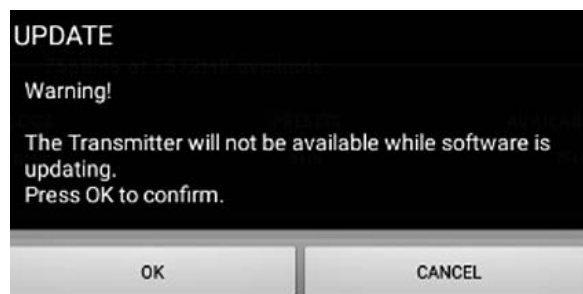

Figure 122: Update Confirmation Screen
5. At the screen shown in *Figure 122* below, click the OK button to confirm the update and continue.